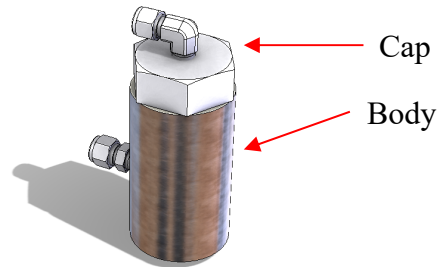

Figure 34: Auxiliary Filter
- d) Rigidly affix the body and unscrew the cap. See Figure 34.